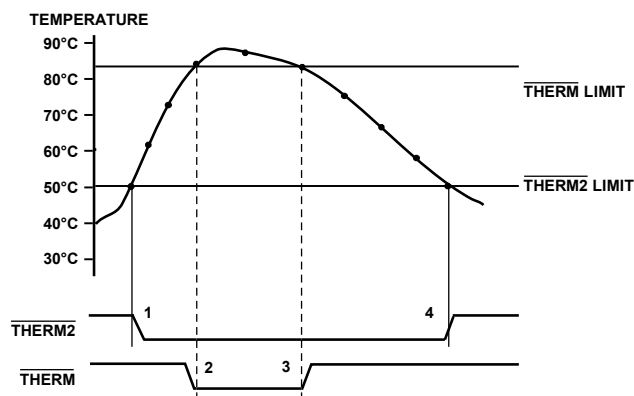

Figure 21. Operation of the $\overline{\text{THERM}}$ and $\overline{\text{THERM2}}$ Interrupts
Figure 21 shows how $\overline{\text{THERM}}$ and $\overline{\text{THERM2}}$ operate together to implement two methods of cooling the system. In this example, the $\overline{\text{THERM2}}$ limits are set lower than the $\overline{\text{THERM}}$ limits. The $\overline{\text{THERM2}}$ output is used to turn on a fan. If the temperature continues to rise and exceeds the $\overline{\text{THERM}}$ limits, the $\overline{\text{THERM}}$ output provides additional cooling by throttling the CPU.
- The $\overline{\text{THERM}}$ output deasserts (goes high) when the temperature falls to $\overline{\text{THERM}}$ limit minus hysteresis. In Figure 21, there is no hysteresis value shown.